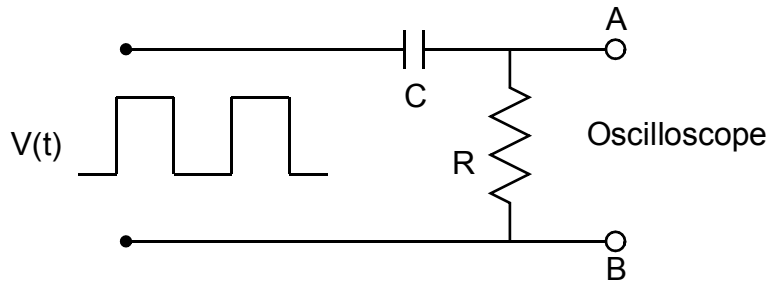

Figure 3: CR circuit with a square wave as input.
- a. Reverse the positions of R and C , as shown in Fig. 3.